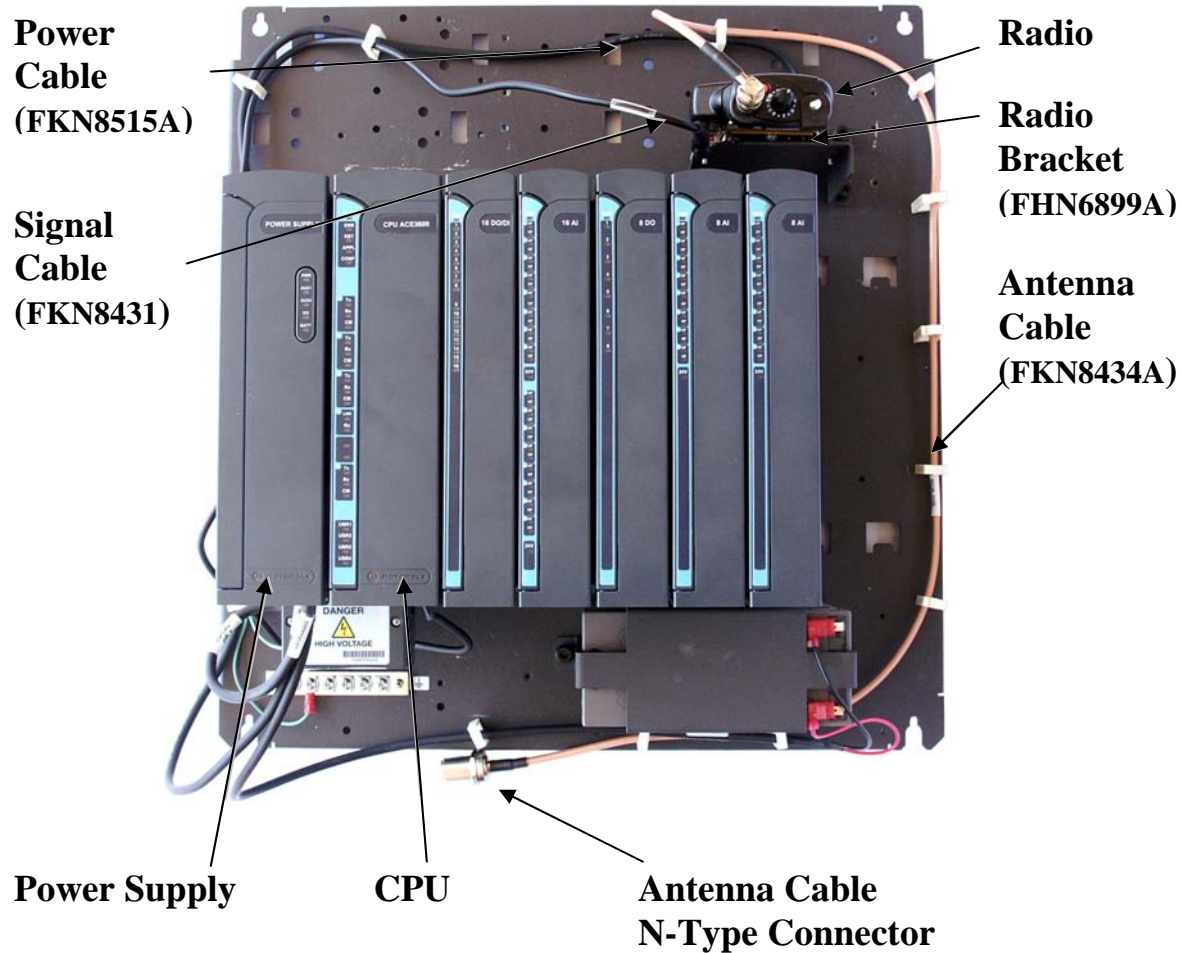

Figure 21-32 GP/HT/PRO Radio Installed on ACE3600 Chassis
8. Using the three screws on the bracket, attach the bracket with the radio to the chassis of the ACE3600. (See Figure 21-32.)
12. Use the clamps provided in the kit to route and secure the audio communication and DC power cables. (See Figure 21-32.)